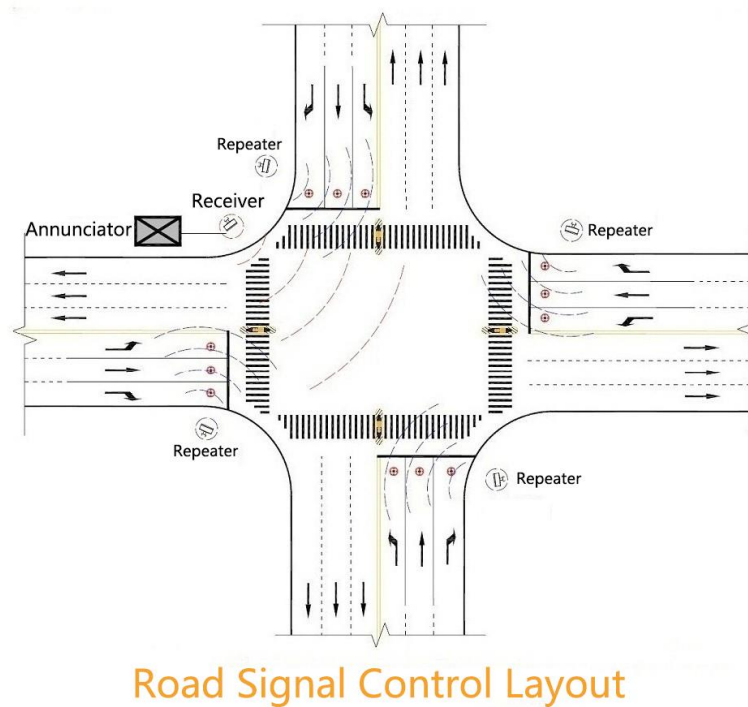

Figure 2-8: Intersection Signal Layout Diagram
2.4.4. Installation Process: The intelligent data processor is used to process the detection data transmitted by the receiver. It undergoes certain filtering algorithms to obtain accurate vehicle detection data, which is then converted into switch/serial port/Ethernet signals required by the signal system. The overall layout of the intersection is shown in Figure 2-8.